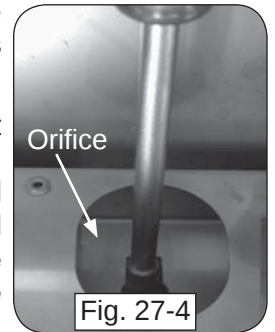

Fig. 27-4
5. Use a $\frac{3}{8}$ " hex nut driver to remove the exposed orifice (Fig. 27-4) and replace it with the correct orifice for the new gas. (See Table 1 at the beginning of this document for orifice sizes.)